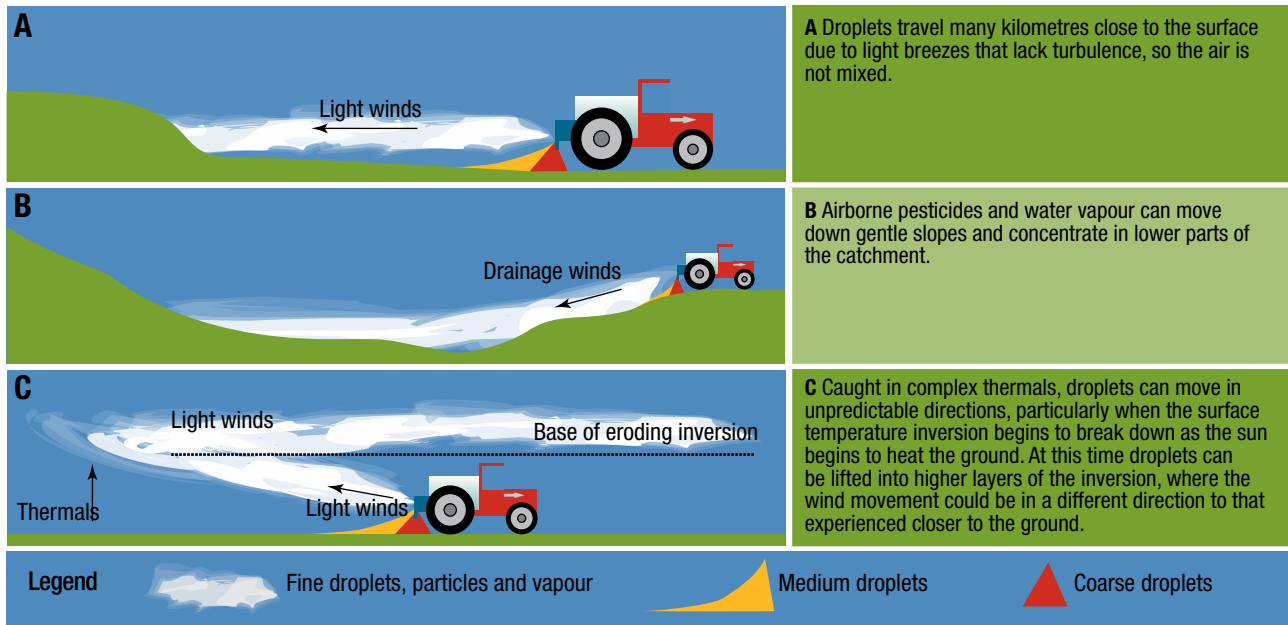

FIGURE 3: Possible movement of airborne droplets in surface temperature inversion conditions.
- droplets or their remnants can move in different ways (Figure 3).
On gentle slopes, concentrated droplets can be transported many kilometres by drainage winds towards the lowest point in the catchment. Under an inversion, where water runs from a property, droplets can move. See Figure 3 (c).